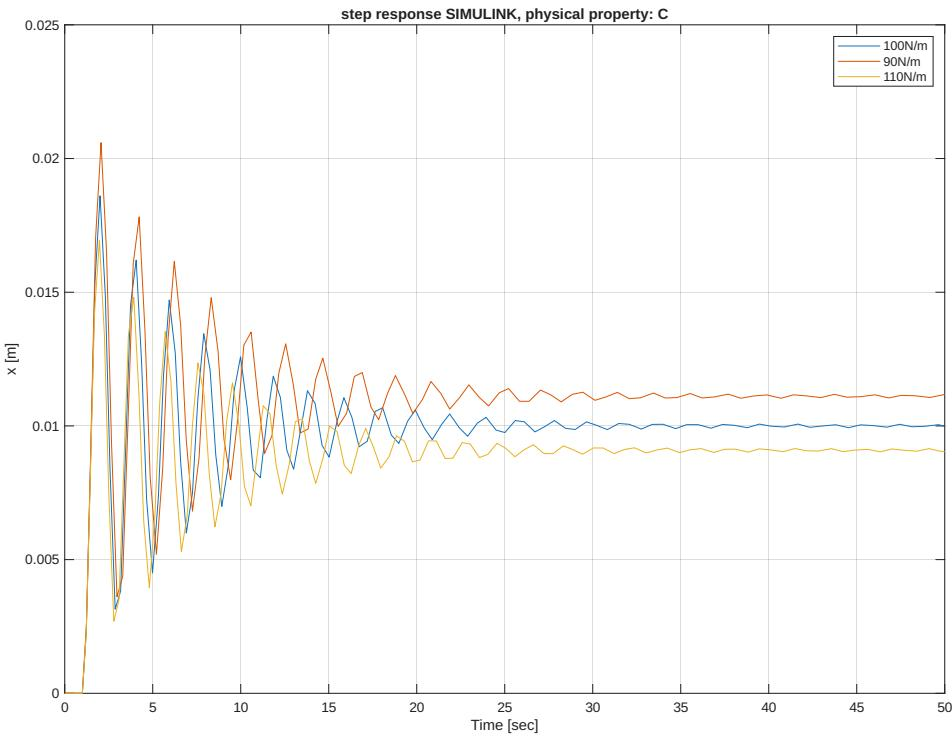

Figure 10: Step response with different values for the spring constant.
Influence of spring constant (C): As shown in figure 10, changing the spring constant influences the value to which x converges towards. A reduced spring constant leads to a larger convergent value of x , while an increased spring constant leads to a smaller convergent value of x .